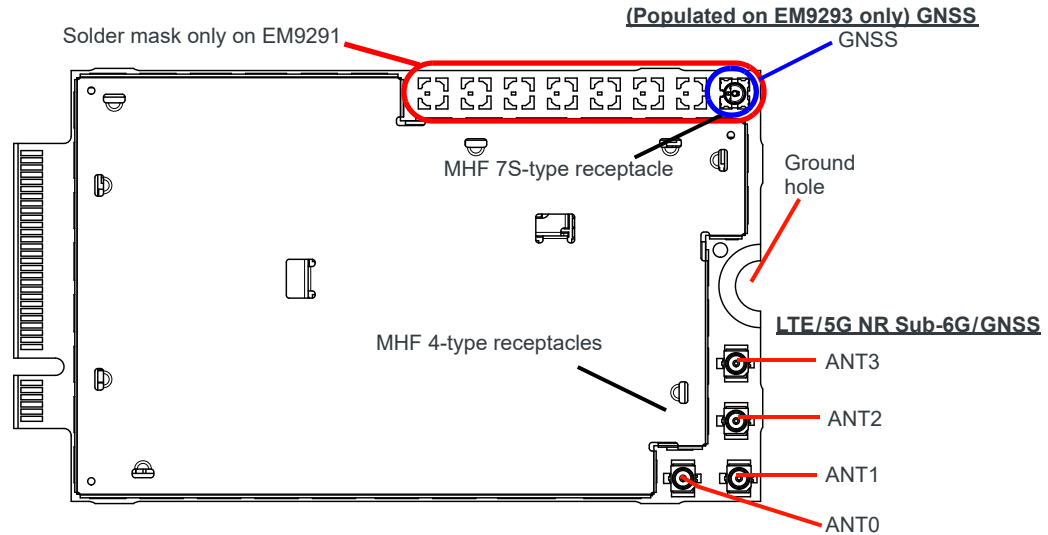

Figure 4-1: EM92XX Module RF Receptacles
- Connect to system ground using the ground hole shown in Figure 4-1 on page 44.